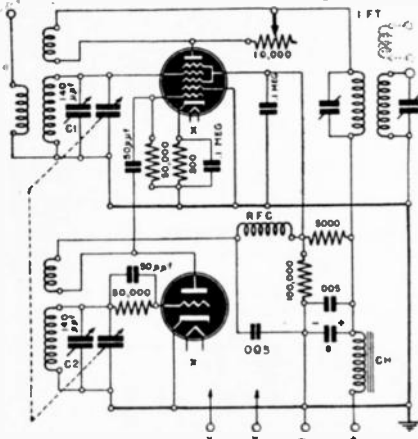

Fig. 202
A. This converter (See Fig. 202) uses a 6A7 or 6A8 mixer and a 6J5 or similar tube for oscillator. The 140- μf condensers should be mounted on independent shafts and the smaller condensers shunted across them, and ganged. These may be midget types with a maximum capacity of 30 μf or so. Identical coils may be used for the oscillator and aerial circuits, the difference in frequency being compensated for by the variable condensers.